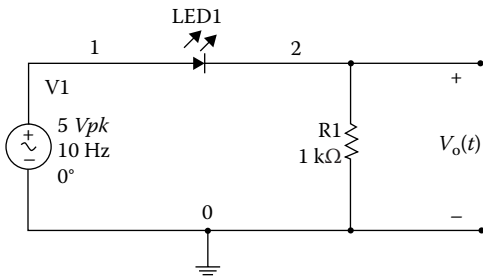

FIGURE P1.3
Problem 1.3 For the circuit shown in Figure P1.3, (1) display the output voltage on a scope. (2) When the frequency of the source voltage is increased to 100 Hz, what is your observation with regard to the LED?